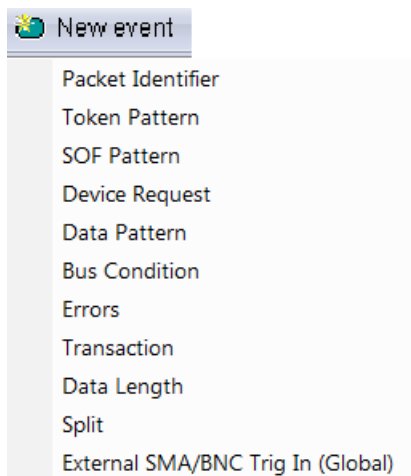

Figure 10.27: New Event Pop-up Menu.
1. Click the **New Event** button at the left side of the toolbar to display the New Event pop-up menu (see Figure 10.27 on page 372).